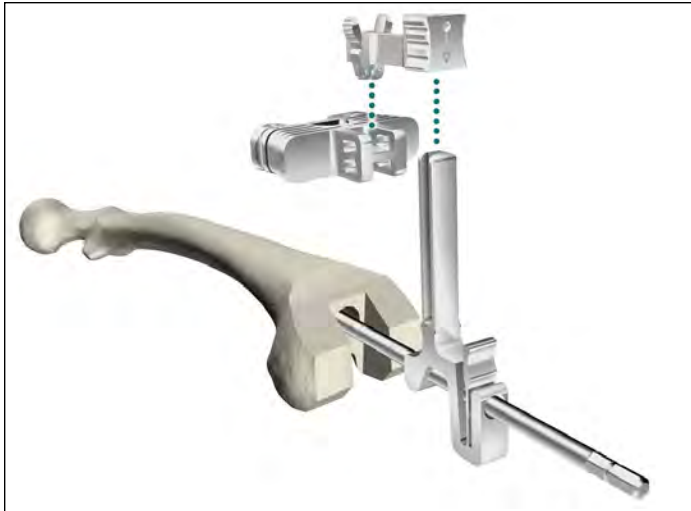

Figure 18
- Slide the Resection Guide Tower over the top of the IM Reamer by depressing the finger tab. Assemble the Revision Distal Resection Guide to the Support Arm Assembly. Slide the assembly on to the Resection Guide Tower (Figure 18). Verify that the Revision Distal Resection Guide reads “Left” for left leg or “Right” for right leg on the side facing away from the femur.